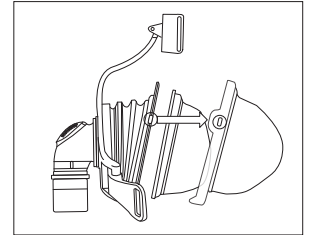

Figure 8
1. Pull outward on the three attachment tabs on each side of the mask cushion until this cushion separates from the mask frame (Figure 8).